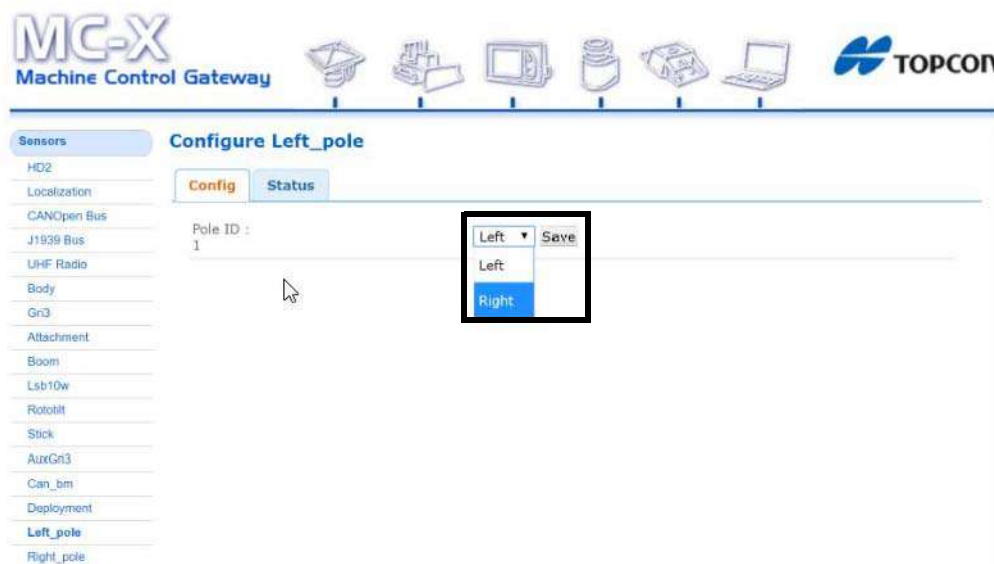

Figure 13. Right
7. Select **Right** from the drop-down menu (Figure 13).